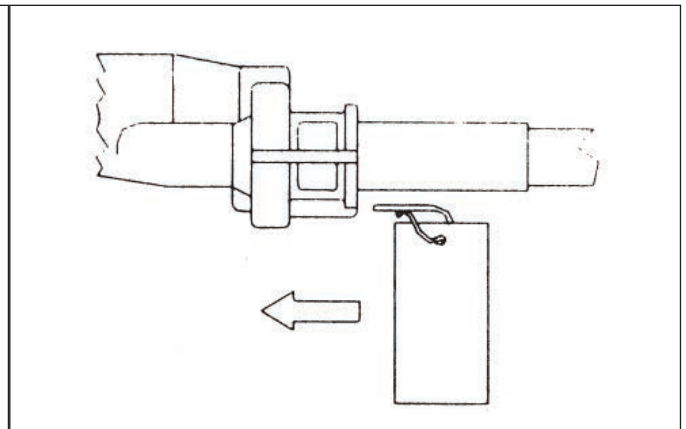

Figure 6.
STEP 3. Replace pin as shown in Figure 6, making sure that it is fully seated. If pin cannot be inserted, the cable is not fully seated in the helm. Push on cable to ensure that it is fully home. **DO NOT REMOVE TAG FROM PIN.**